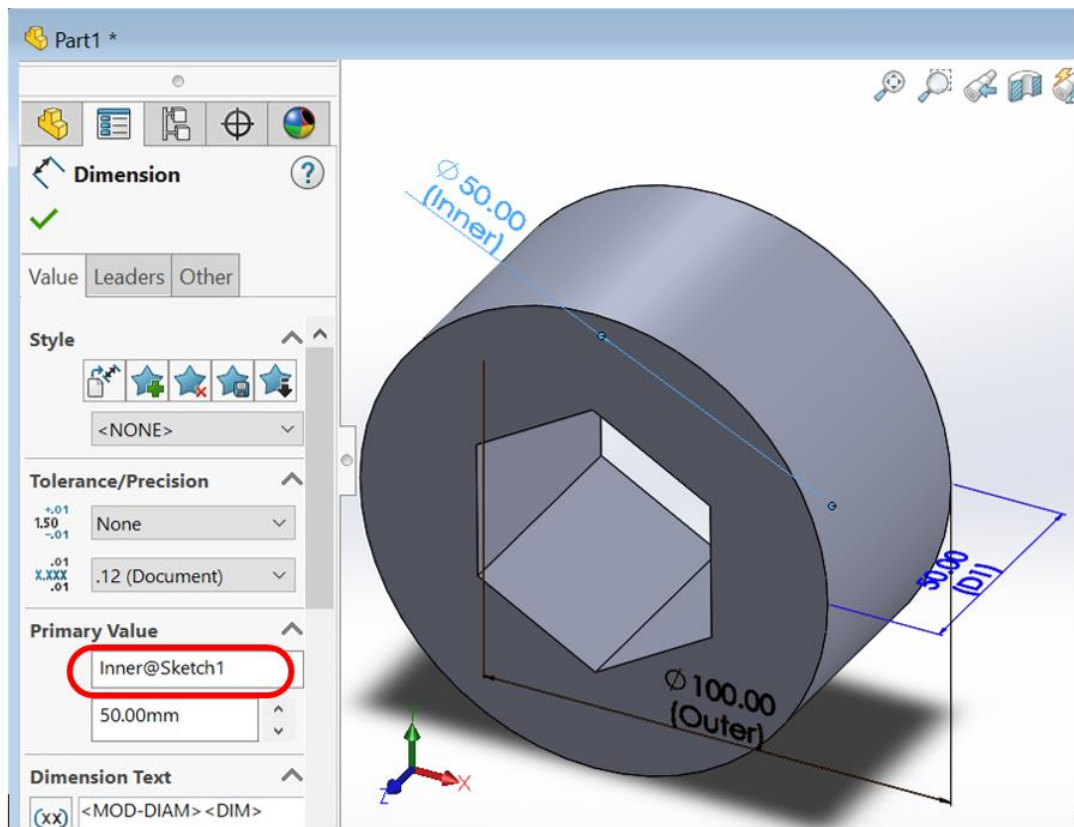

Figure 7 – Displaying the *Dimension PropertyManager* window for changing the dimension name
3. Change of the names of the dimensions. Since customizing a model often involves changing dimension values and changing the behavior of a certain tool, it is a good idea to change the names of dimensions and features to simplify the process of creating a configuration. To change the size name, right-click on the numerical value of the size, after that the *Dimension PropertyManager* will appear on the left (Fig. 7).
The *Dimension* tab displays a name that refers to the name of the diameter of the circle inscribed in the hexagon – *D2@Sketch1*, where *D2* is the name of the dimension, *Sketch1* shows which sketch this dimension refers to. *D2* is changed to the name *Inner* (Fig. 7), and the name of the outer diameter *D1* is changed to the name *Outer* (similarly).